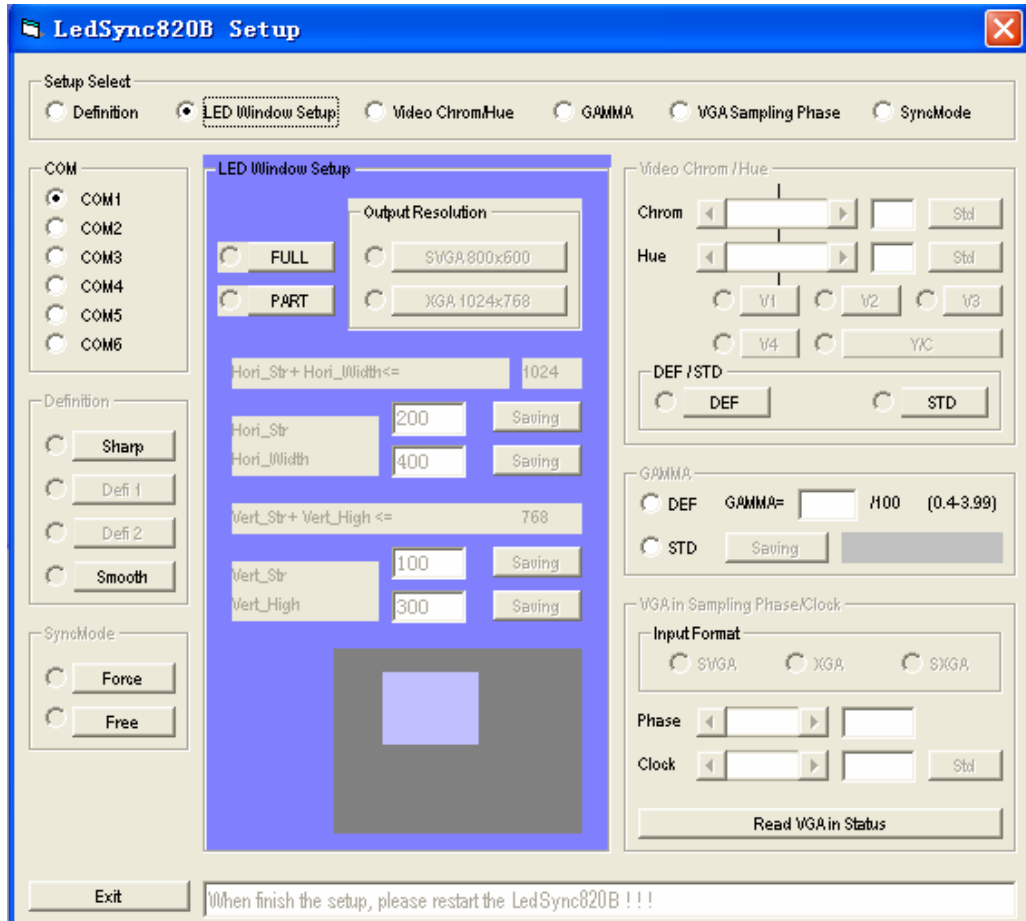

Figure 4
Click the button “LED SETUP” on the user interface, enter the password “123456” in the dialog box, enter into the interface of engineering setup interface as shown in figure 4 below:
Select the COM port through which the PC connected to the **LedSync820B**, as shown in figure 4, COM1 is selected.
“ Output Resolution” , as shown in figure 4, “XGA” is selected. At the same time, this operation read back the LED window's size and location.
- 4) Enter the horizontal start location of the output image in the column “Hori_Str” , as shown in figure 4, the value is set to be “200”, press the button “saving” in its right to save the value.
- 5) Enter the horizontal width value of the output image in the column “Hori_Width”. Generally ,this value equal to the horizontal pixels of the LED screen. as shown in figure 4, the value is set to be “400”. press the button “saving” in its right to save the value.
- 6) Enter the vertical start location of the output image in the column “Vert_Str” , as shown in figure 4, the value is set to be “100”, press the button “saving” in its right to save the value.
- 7) Enter the vertical heigh of the output image in the column “Vert_Heigh”. Generally ,this value equal to the vertical lines of the LED screen, as shown in figure 4, the value is set to be “300”. press the button “saving” in its right to save the value.